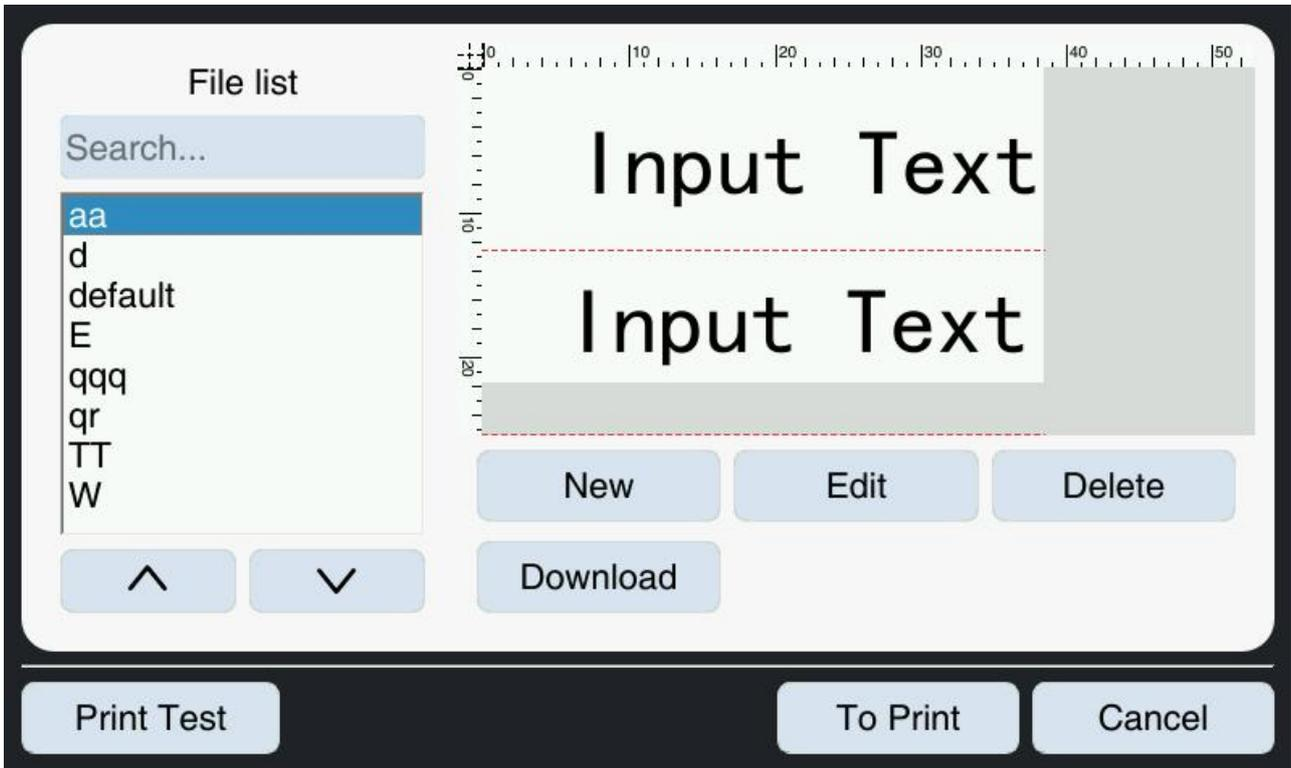

Figure 4-2 Files selection interface
2. After selecting the required job from the list, a preview of the job's contents will be displayed on the right side of the screen, as shown in Figure 4-2.